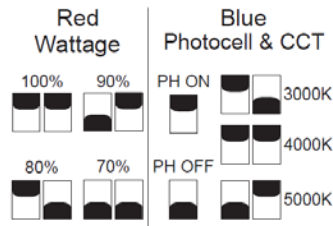

Figure 2
- 4: Adjust dip switch position for desired setting. (Figure 2)